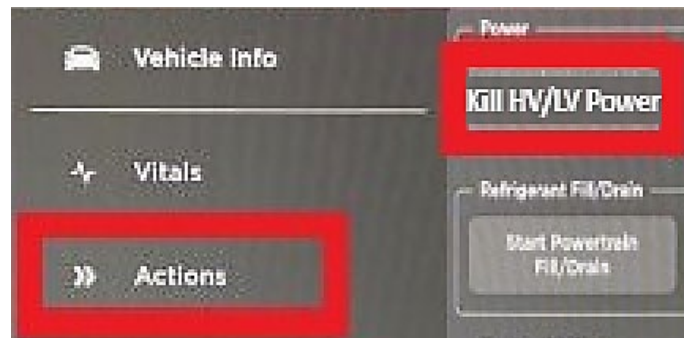

Figure 3
- c. On the RH touchscreen, touch **Actions** > **Kill HV/LV Power** to disable the LV and HV system (Figure 3).